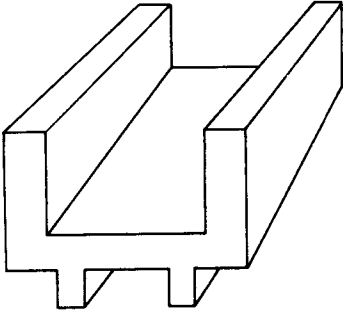

Fig. 3.66
4. Make three-view drawings (a) in first-angle projection (b) in third-angle projection of each of the objects shown in Figs 3.66 and 3.67.